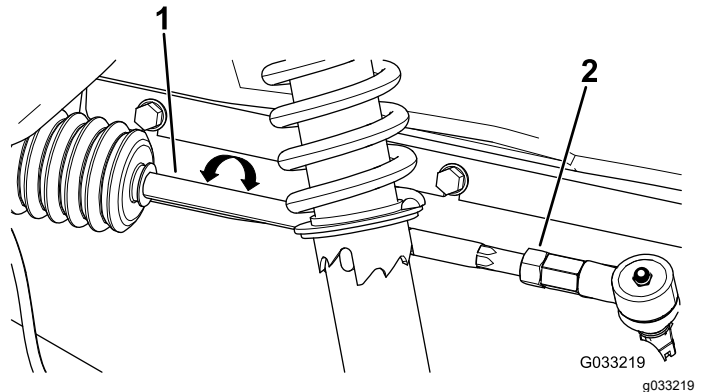

Figure 115
1. Loosen the jam nuts at the outer end of the tie rods (Figure 115).